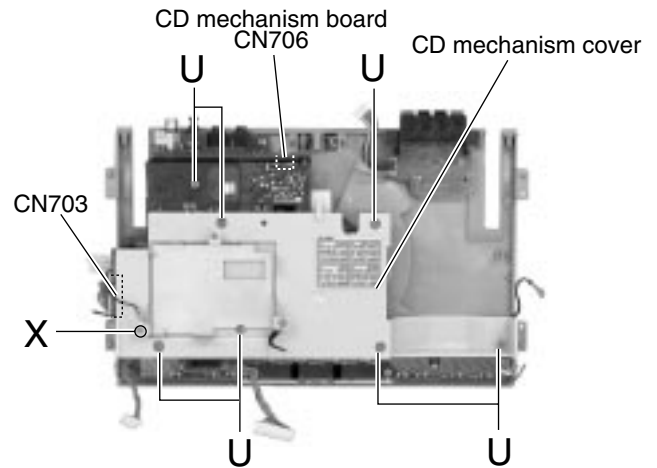

Fig.34
3. Unjoint the six joints (f) with the VCD shield (L) and the VCD shield (U). Remove the VCD shield (L) in the direction of the arrow.
4. Remove the VCD CB assembly from the VCD shield (L).
■Removing the CD mechanism board / mechanism assembly (See Fig.34 to 38)